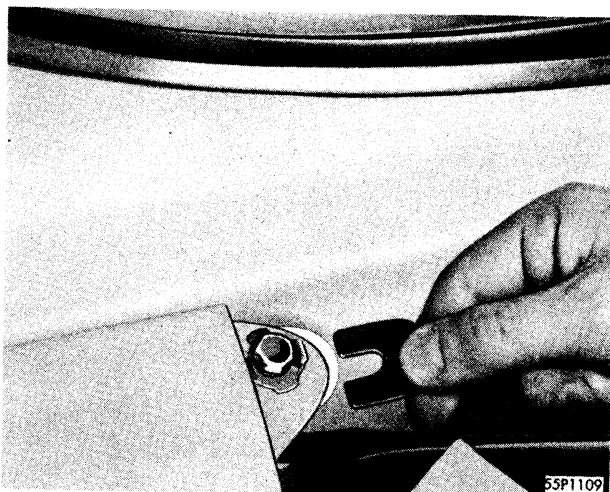

Fig. 10—Installing U-Shaped Washer
2. **Front of Hood is Too Close to One Fender**—Loosen the two fender-to-radiator support bolts. Install $\frac{1}{8}$ inch horseshoe-shaped shim between fender and radiator support (over top bolt) on side lacking sufficient clearance (Fig. 10). Lower the hood and check hood-to-fender spacing. If necessary, raise hood and insert another shim. Tighten bolts securely after correction is made.